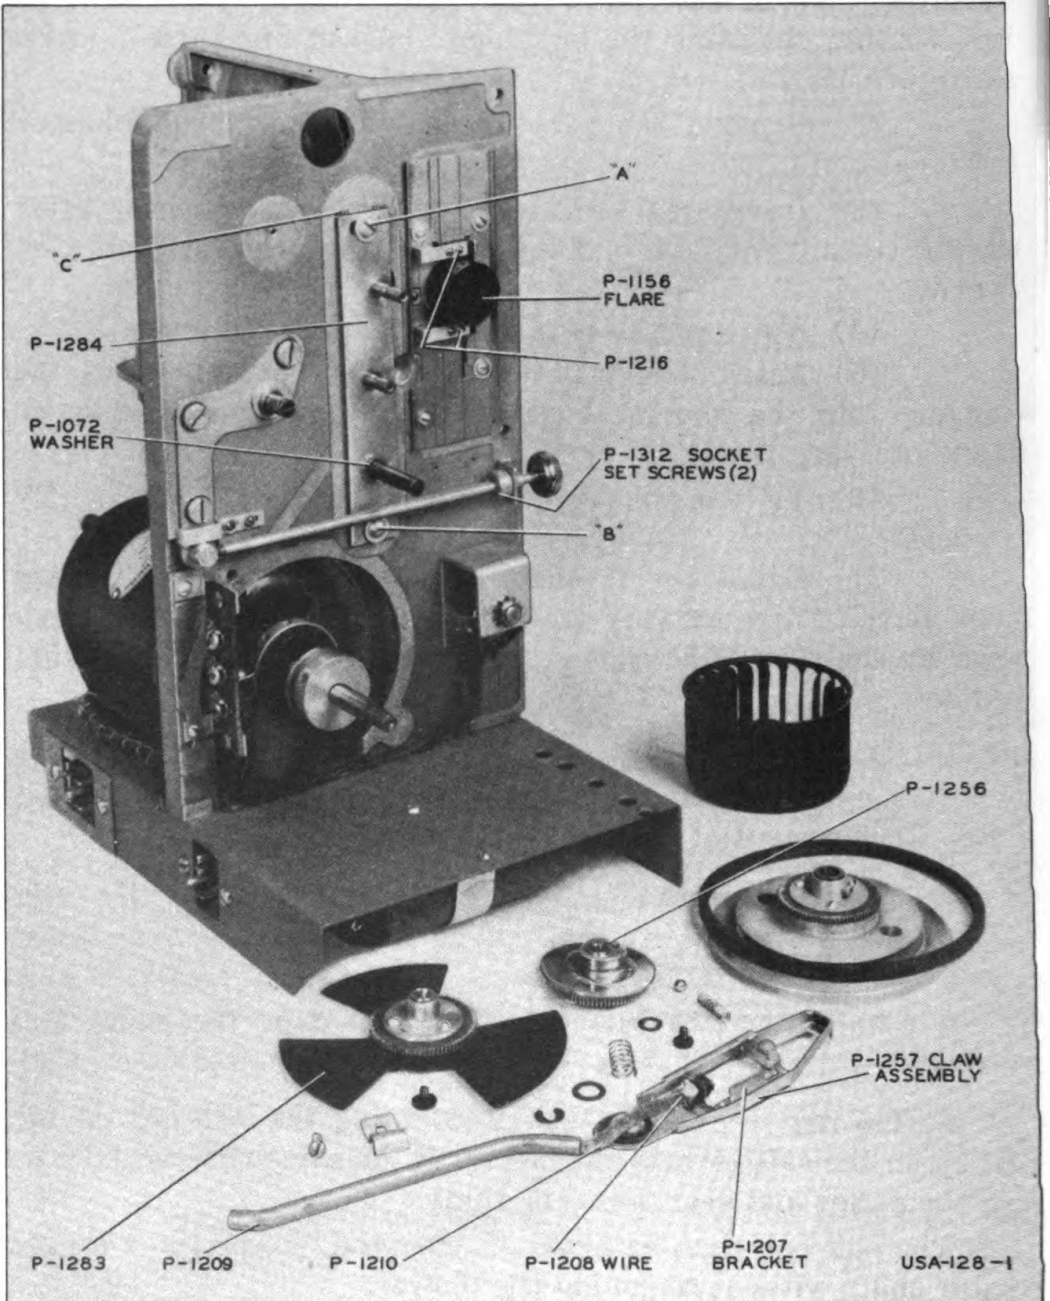
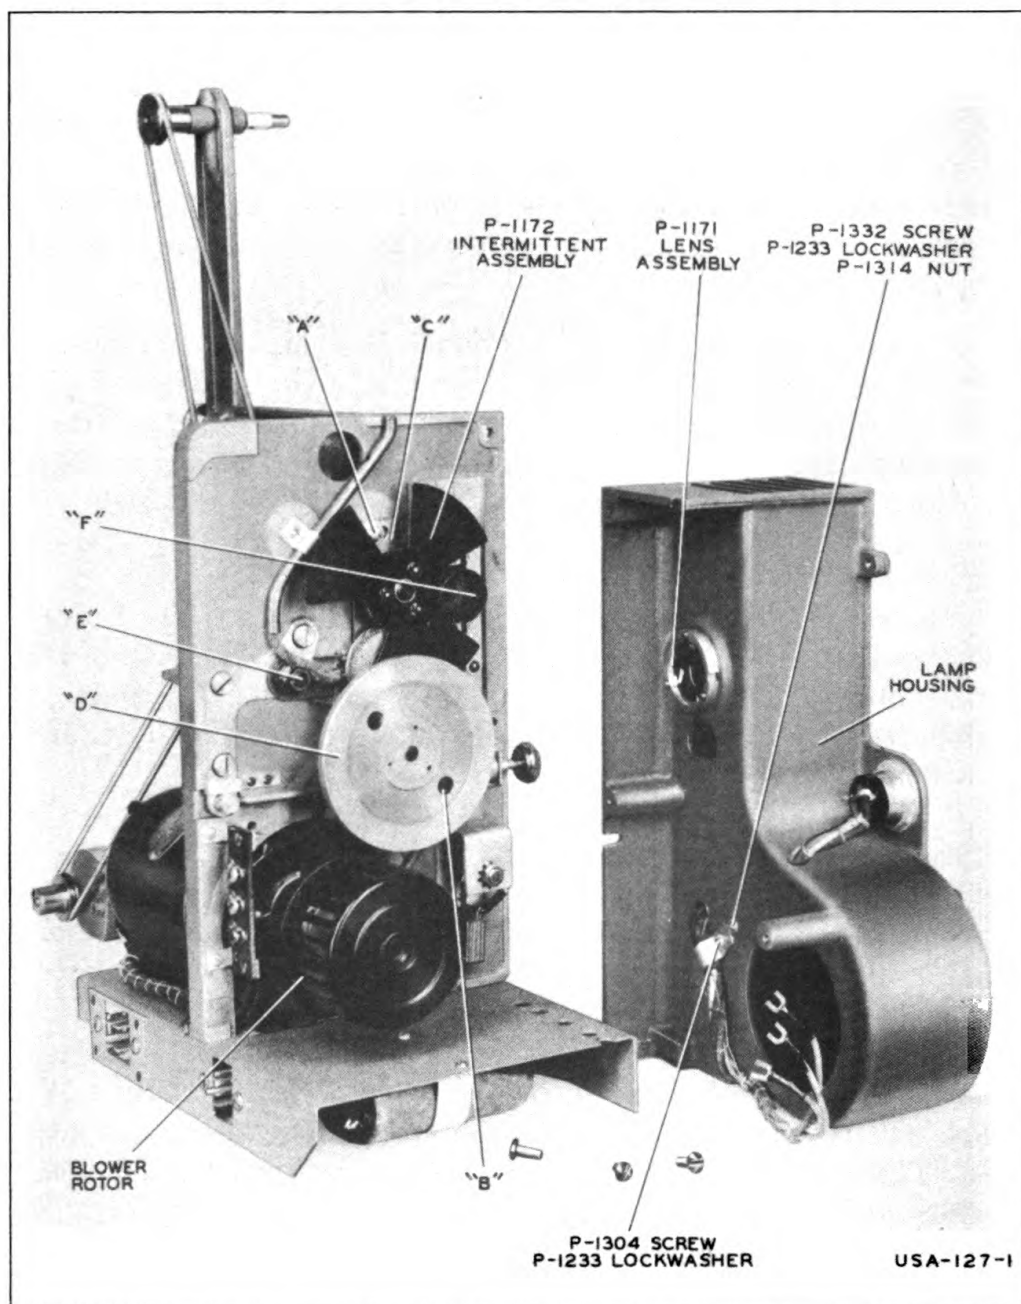

Figure 17—Projector—Rear View—Intermittent Mechanism Removed
Figure 18—Projector—Rear View—Lamp Housing Removed
a. *Positioning Intermittent Body.*—Line up the centers of the framing pivot, intermittent eccentric, cam shaft, and the adjusting screw for the in-and-out cam in a horizontal position. When all of these centers are lined up, the claw will be in the half way down position of the stroke. (See Figure 17.)
(1) Loosen screws "A" and "B" of Figure 17. Figure 18 shows parts in place and screw "A" may be seen between the shutter blades. The lower screw ("B" of Figure 17) may be reached through hole "B" (Figure 18) with a medium size screwdriver.
(2) Move gear plate ("C" of Figure 18) as far to the right as possible then tighten screw "A" temporarily.
(3) Place a strip of film in the gate and close the gate.
(4) Rotate the flywheel ("D" of Figure 18) by hand (clockwise) and observe the claw action to see if the claw moves the film down each time it moves downward.
(5) If not, again loosen screw "A" and move the gear plate to the left one division of the scale ("C" of Figure 17) which will be seen stamped into the frame just above the gear plate. Tighten screw "A" and again rotate the flywheel and check for movement of the film by the claw.
(6) If the claw still does not engage the sprocket holes in the film, move the gear plate another scale division to the left and repeat the test.
(7) When the position of the gear plate is found where the claw first engages the film sprocket holes, move the plate to the left an additional two and one-half scale divisions and tighten both screws to hold it securely in place.
c. *Lateral adjustment of Claw.*—Adjust the lateral position of the claw when it is in the half way down position by means of the eccentric pivot “E” (Figure 18) (to permit adjustments of the eccentric pivot loosen the two set screws “B” of Figure 14) until the claw clears the outside edge of the sprocket holes in the film by about .012 of an inch. To aid in judging this distance, it may be helpful to know that the radius of the sprocket hole corners is .010 of an inch. Therefore the claw should be positioned so that it is just inside the straight portion of the sprocket hole and just clears the curved corner of the hole. *The eccentric pivot must be in its lowest position before starting this adjustment.* The pull down claw must engage the sprocket holes at all times during the downward travel and the film must run smoothly when using the framing adjustment in any position.
(1) Remove the flywheel (“D” of Figure 18) by loosening the two Allen set screws and forcing the belt off the pulley while turning the flywheel and pulling it from the shaft. (Refer to paragraph 26 d.)
b. With the pull down claw set in the position where it is ready to move downward, assemble the shutter blade on the three screws with the leading edge of the wide blade at the center of the flare ("F" of Figure 18.)